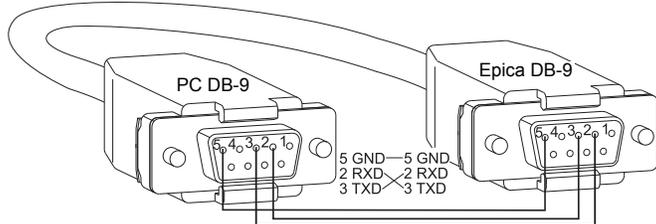

FIG. 4 RS-232 null modem cable pin diagram
2. Plug the null modem cable into the serial port on the enclosure (FIG. 4 and 5).